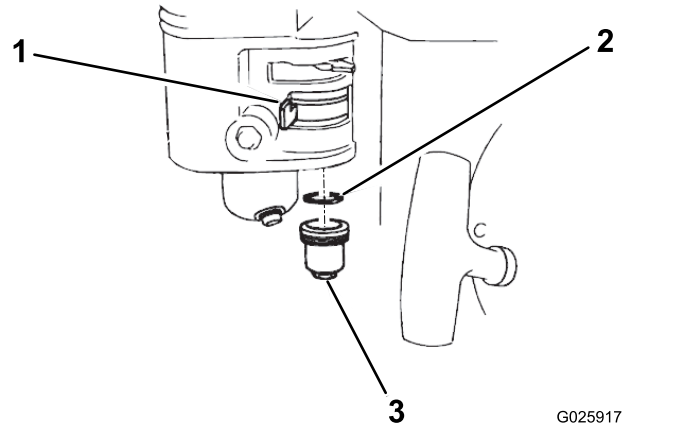

Figure 34
2. Move the fuel-shutoff valve to the OFF position (Figure 34).
3. Remove the fuel sediment cup and O-ring (Figure 34).
6. Place the O-ring in the fuel-shutoff valve and install the sediment cup (Figure 34). Tighten the sediment cup securely.